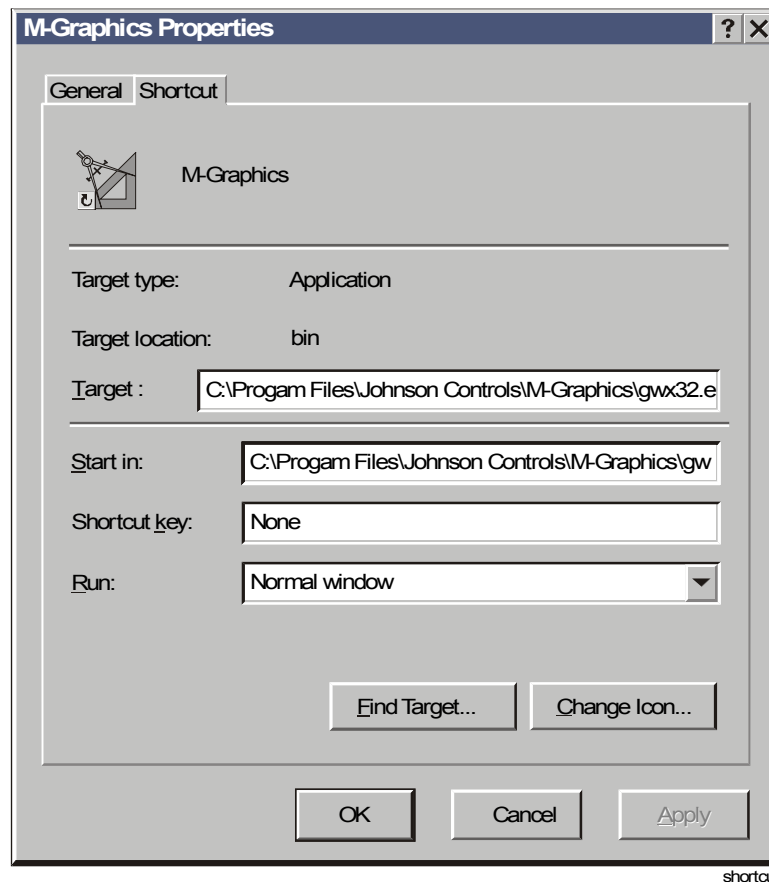

Figure 4-3: Shortcut to M-Graphics Properties Dialog Box
4. Right-click the M-Graphics icon and select Properties. The M-Graphics Properties dialog box appears (Figure 4-3).